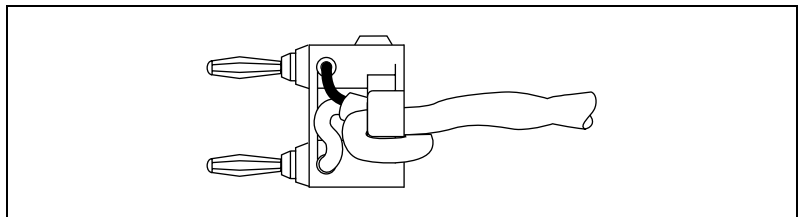

Figure 4. Using the Strain-Relief Hole
- When using the double banana plug terminal, consider wrapping the cable through the strain-relief hole before tightening the screws down, as Figure 4 shows.